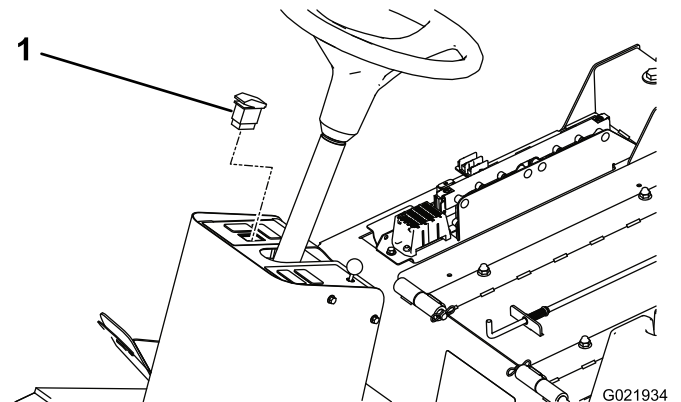

Figure 3
3. Install the beacon switch into the hole in the steering tower dash panel (Figure 3). The turn signal switch is an On-Off-On switch.